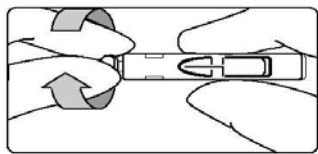

Figure 2
3. Twist off the lancet cap (Figure 2) and discard it.